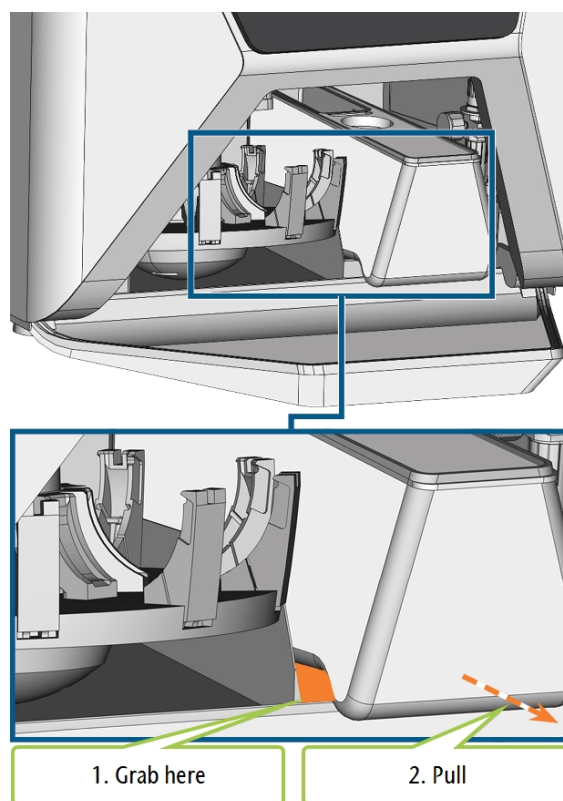

FIG. 35 – REMOVING THE COOLING LIQUID TANK FROM THE MULTI-PURPOSE COMPARTMENT
5. Pull the cooling liquid tank out of the compartment in the direction indicated by the arrow (↗ Fig. 35 – see below).